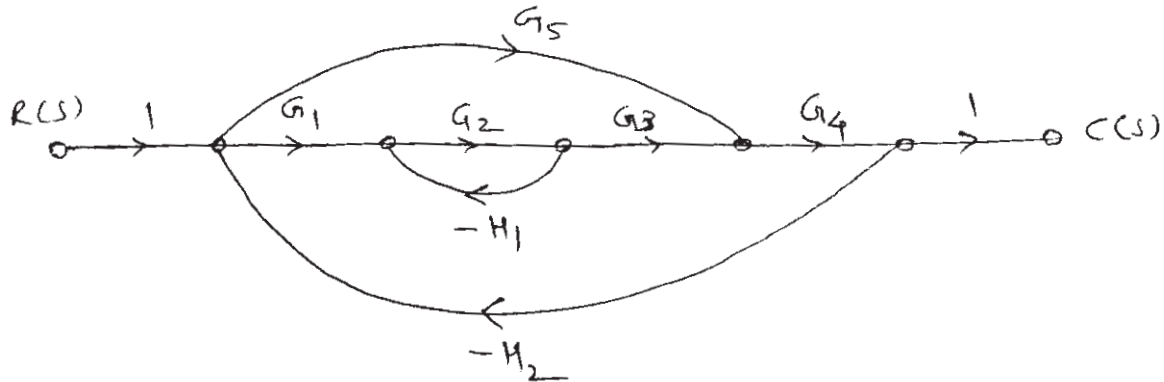

Fig 2.
- Q2) a) Obtain the transfer function $\frac{C(s)}{R(s)}$ of the signal flow graph given in Fig 2 using Mason's gain formula. [8]